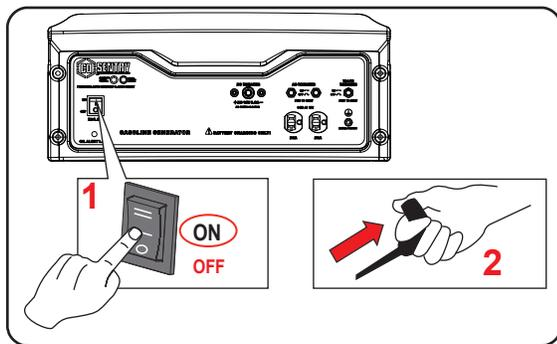

Fig 9 Recoil Start
- Turn the engine ON/OFF switch to the “ON” position. Pull the recoil starter grip slowly until resistance is felt, then pull rapidly. (See fig 9)